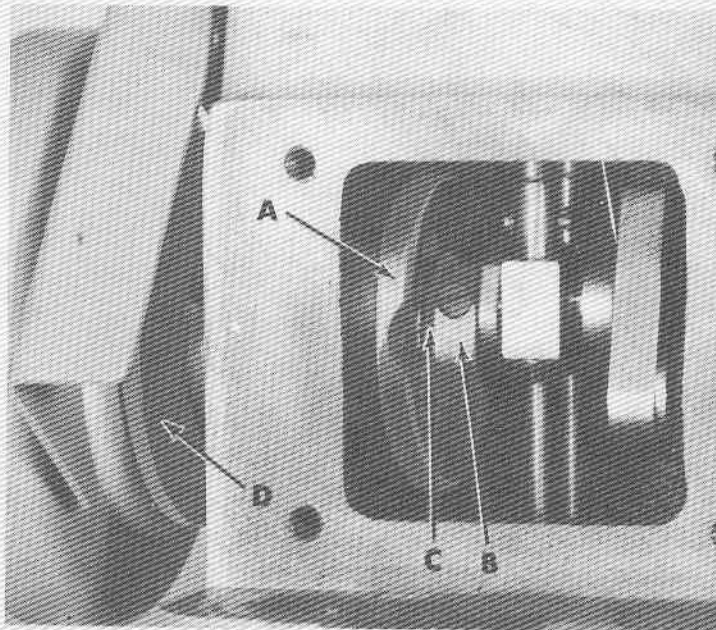
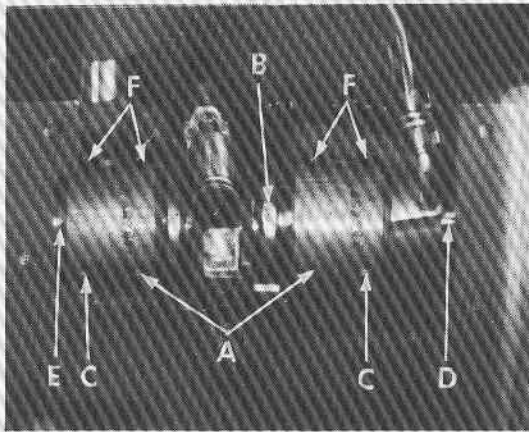
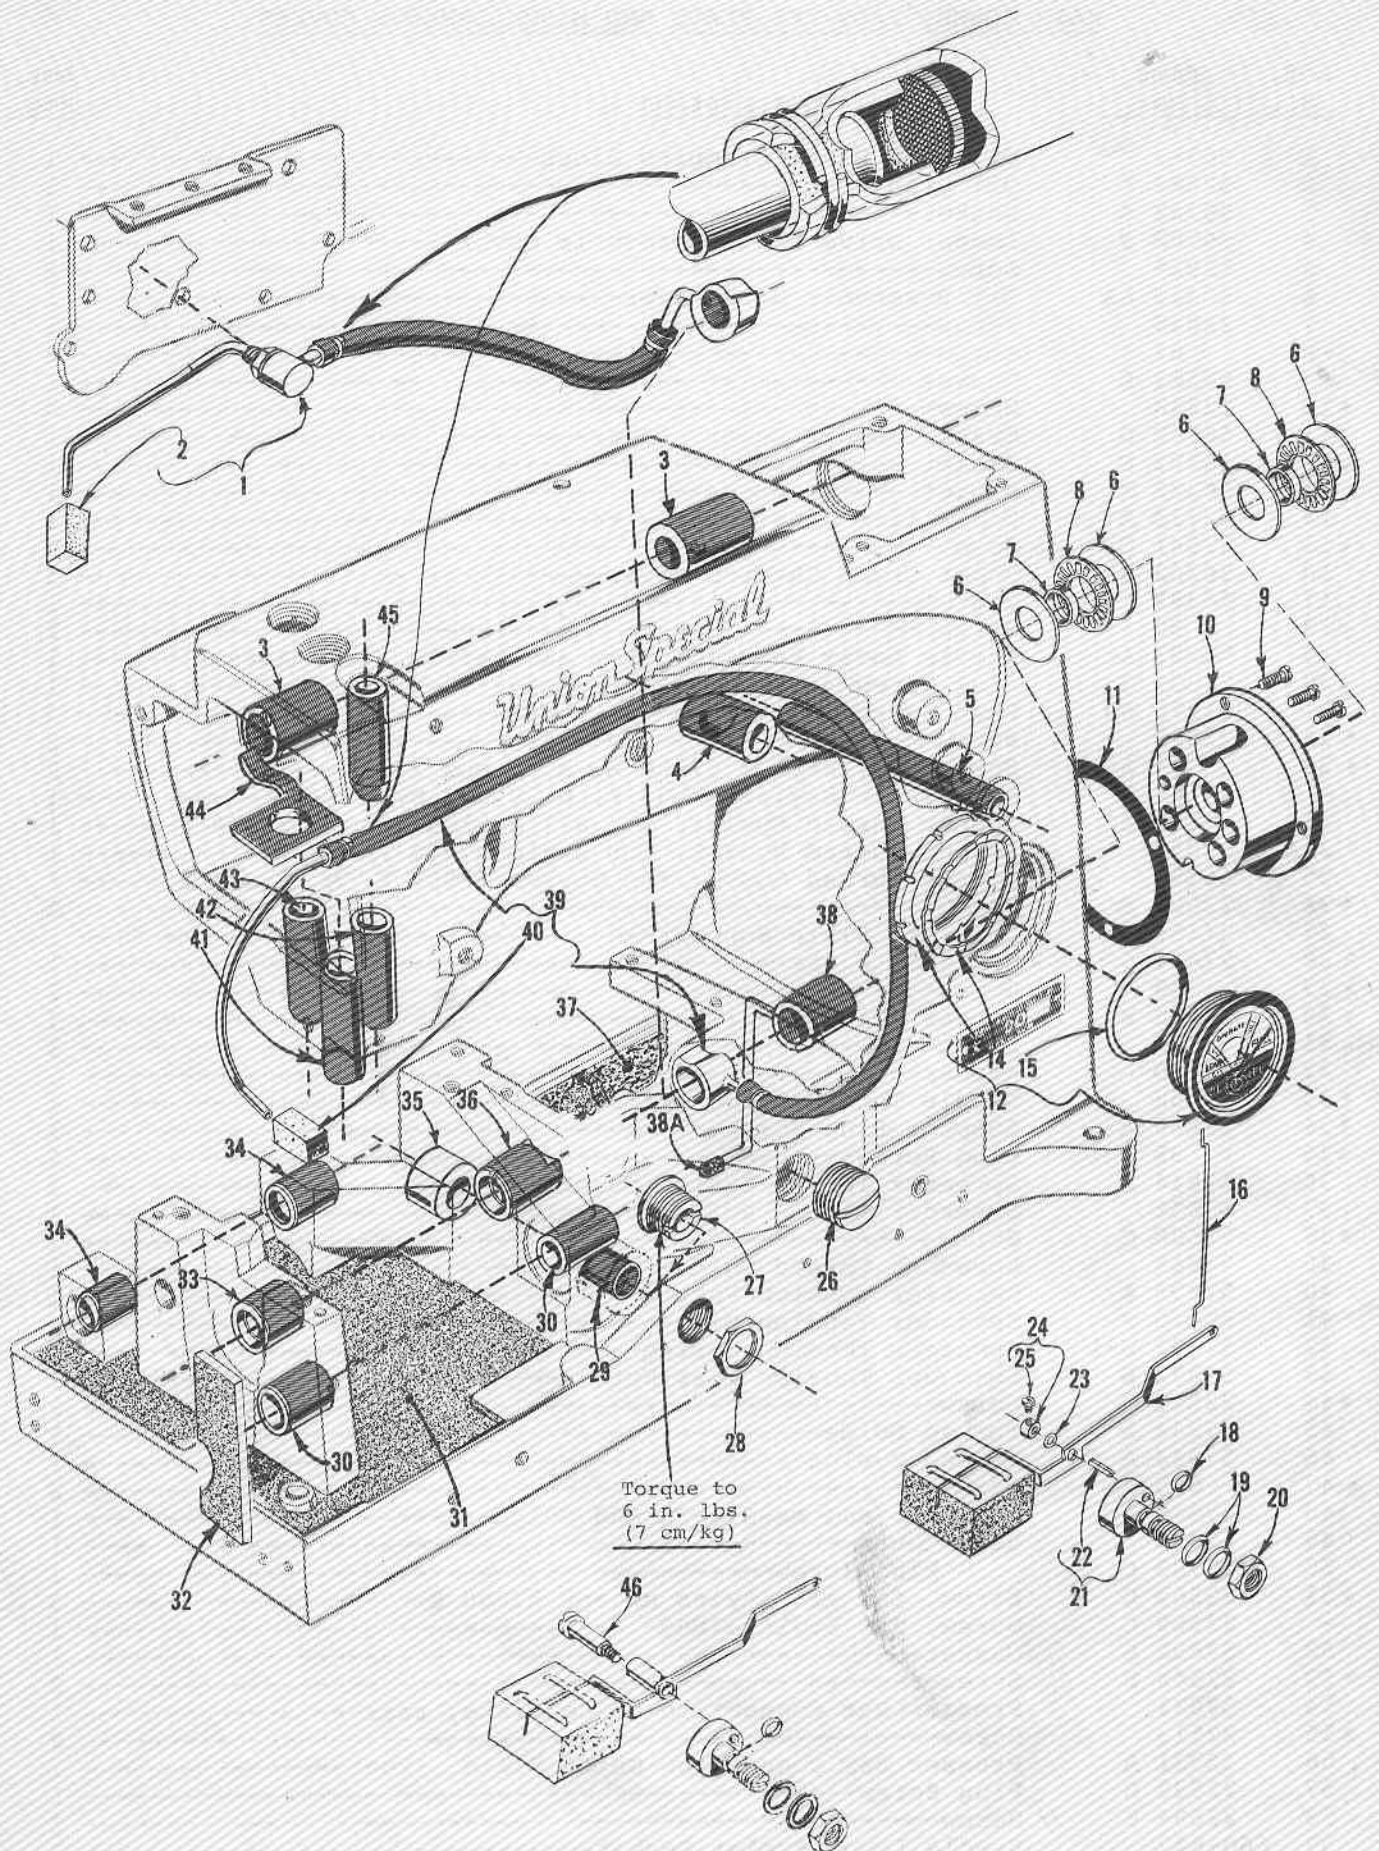

Fig. 21
Fig. 22
Fig. 23
The crankshaft bushing housing (A, Fig. 21) maintains the crankshaft assembly in the correct lateral position. Once the needle lever and spreader drive connecting rods are aligned on the crankshaft, secure thrust collar (B) against bearing washer (C) from the inside (as viewed in Fig. 21) and thrust handwheel pulley (D) against bearing washer from the outside. Spot screws (A, Fig. 22) in the couplings must align with the spots in the looper drive crank (B) and set screws (C) must align with the flats on crankshaft (D) and mainshaft (E). Mainshaft must be positioned laterally with .045 inch (1.14 mm) (Fig. 23) clearance between the right side of its head and the bed casting.
Looper drive crank (B, Fig. 22) must be positioned laterally with 1/32 inch (.79 mm) clearance between it and mainshaft (E). Once these settings are made, it is very important that the couplings are tightened in the following sequence for best performance.